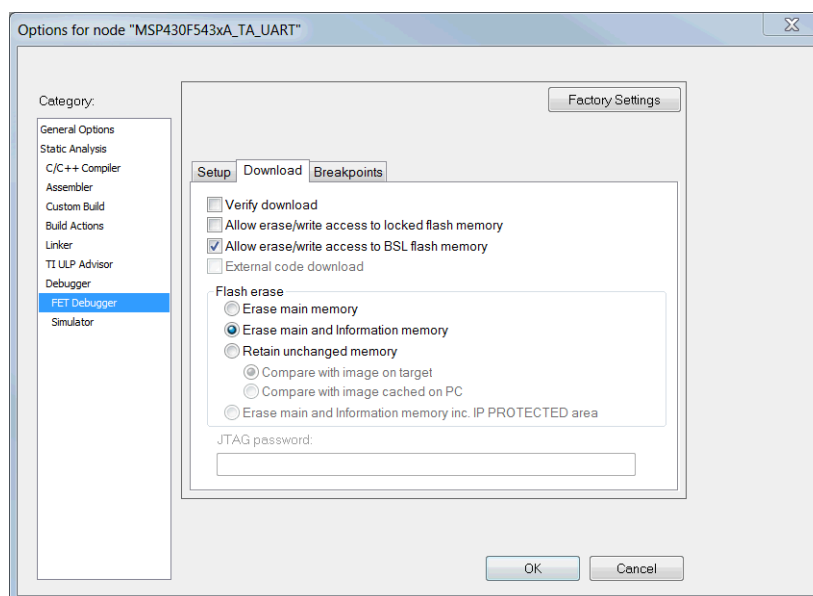

Figure 10. Setting in Project Properties
- b. Check these settings: In the project options, under FET debugger, and the Download tab (see Figure 10), select the “Allow erase/write access to the BSL flash memory” and “Erase main and information memory”.